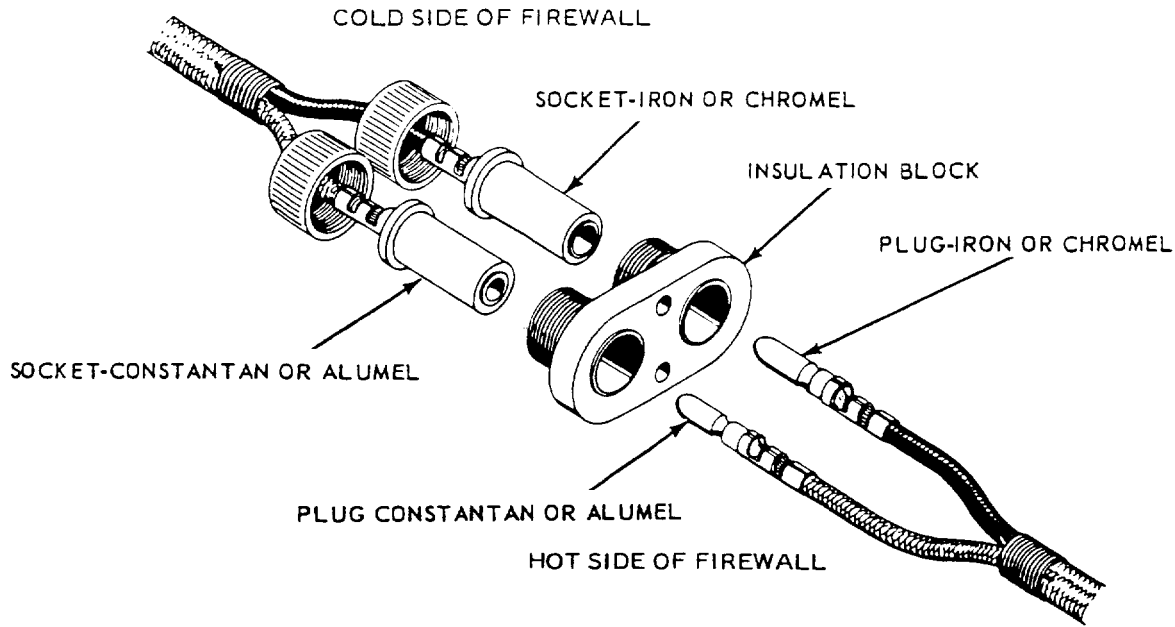

Figure 29. Thermocouple Connector Assembly (AN5537)
35. Thermocouple connector AN 5537 (Figure 29) is used to carry thermocouple connections through firewalls. This is a plug and jack connection, supplied with an insulating plate for attachment to the firewall. Plugs and jacks are supplied in chromel-alumel or iron-constantan combinations. The jack part of the connector is installed on the cool side of the firewall. The pin plug part of the connector is installed on the hot side of the firewall.